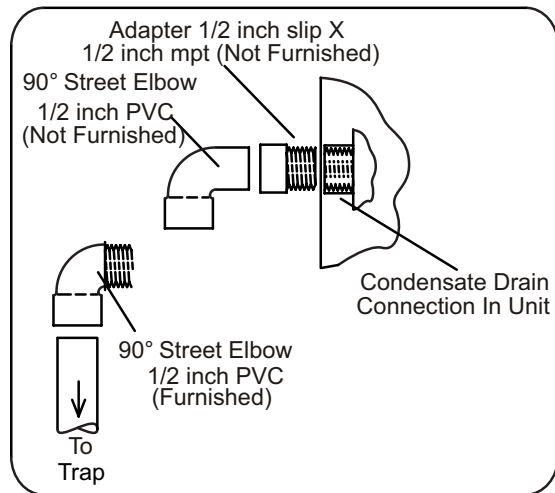

**Figure 52. Evaporator Coil Using a Common Drain**
5. Figure 48 and Figure 49 show the furnace and evaporator coil using a separate drain. If necessary the condensate line from the furnace and evaporator coil can drain together. See Figure 50 through Figure 52.
Horizontal furnace (Figure 49 and Figure 52) - In horizontal furnace applications the field provided vent must be a minimum 4" to a maximum 5" length above the condensate drain outlet connection. Any length